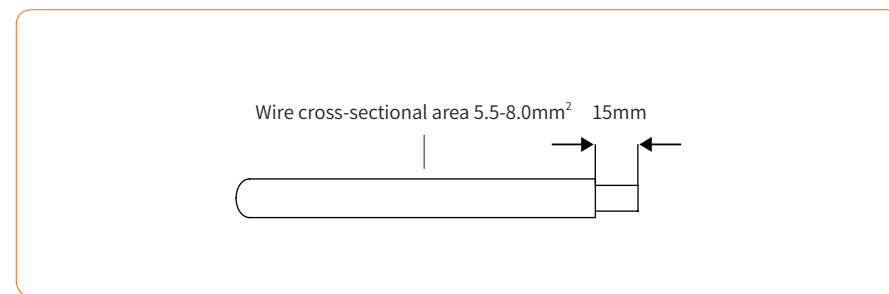

Figure 4-22
- ② Peel off the DC cable insulation sleeve for 7 mm, as shown in Figure 4-22: